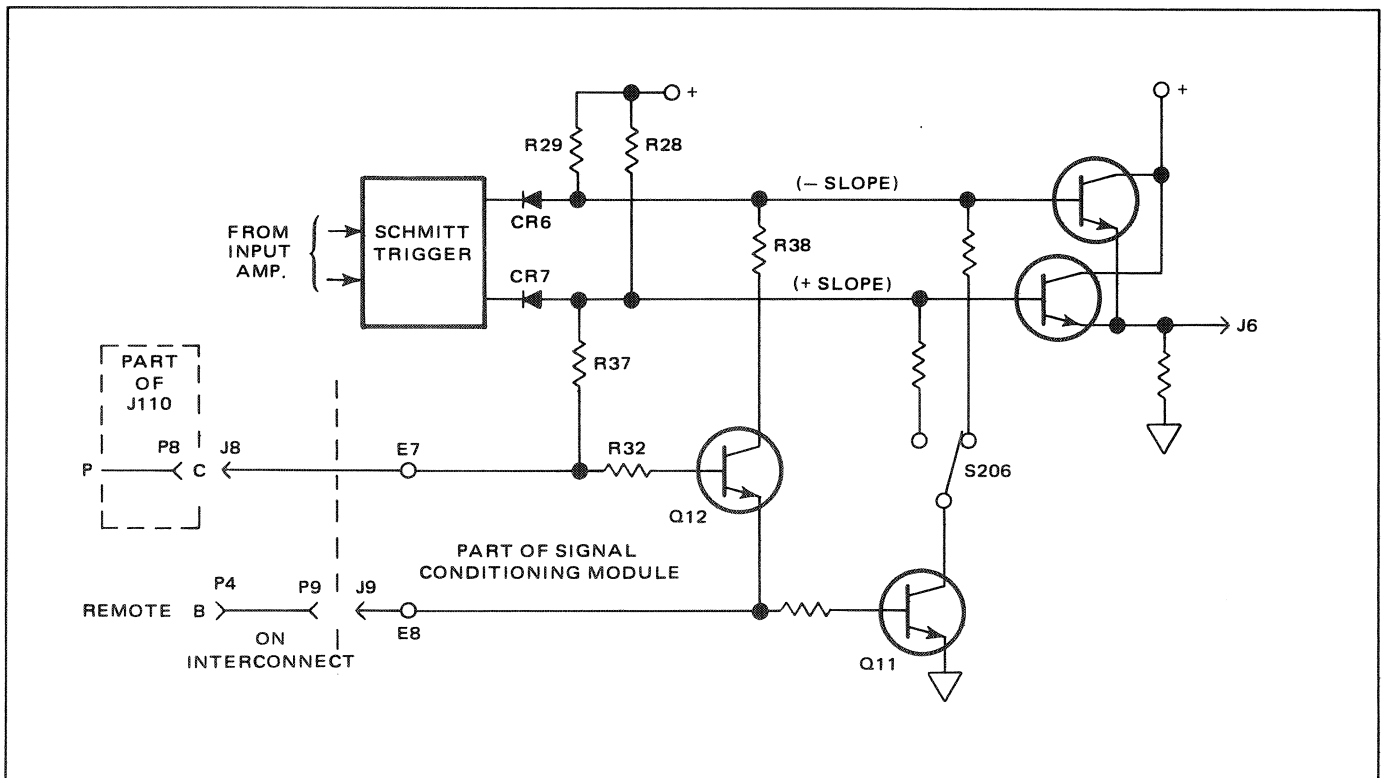

Figure 3.7 - Remote Slope Control (008)
3.28 The remote slope control is shown in figure 3.7. With remote selected, REMOTE is at logic 0. This causes transistor Q11 to be biased off and prevents the front panel SLOPE switch (S206) from pulling either of the two output lines down. Also, the emitter of transistor Q12 is held at logic 0. With J110-P open, Q12 is biased on through